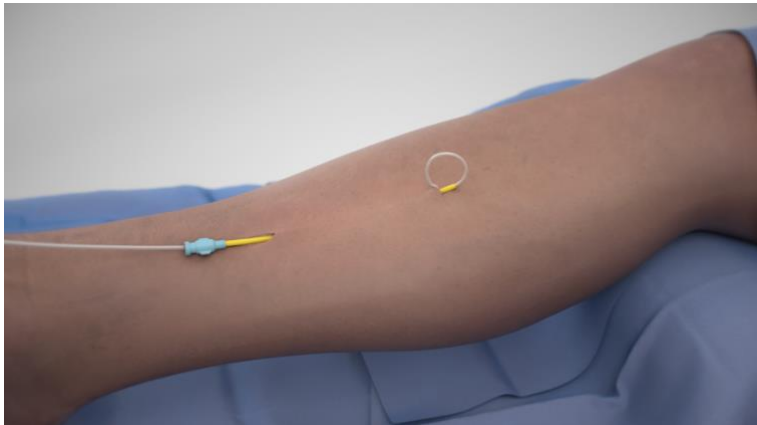

Figure 3
4. Feed the tip of the receiver and electrode array through the distal end of the introducer cannula back into the subcutaneous receiver pocket. (Figure 3)